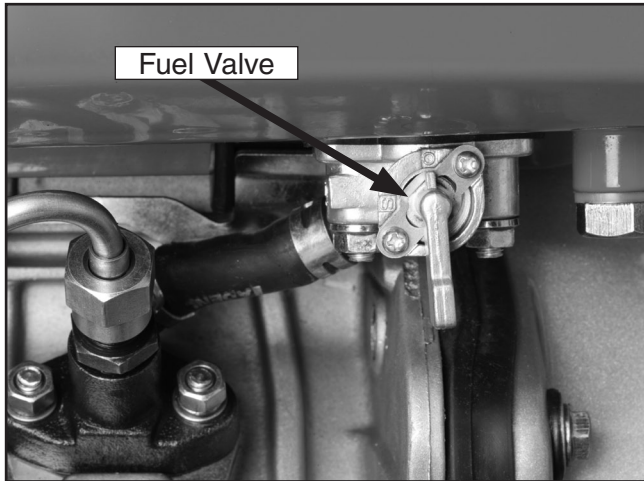

Figure 14. Fuel valve in open position.
6. Open the fuel valve by rotating the lever clockwise until it is vertical (**Figure 14**).